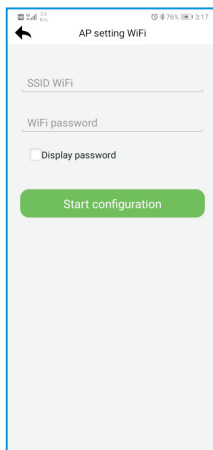

Fig. 5-12
Step 2: Enter the available WiFi name and password in the hotspot setting WiFi interface (Fig. 5-12) , click to start configuration, and the pop-up window prompts the operation steps. (Fig. 5-13)